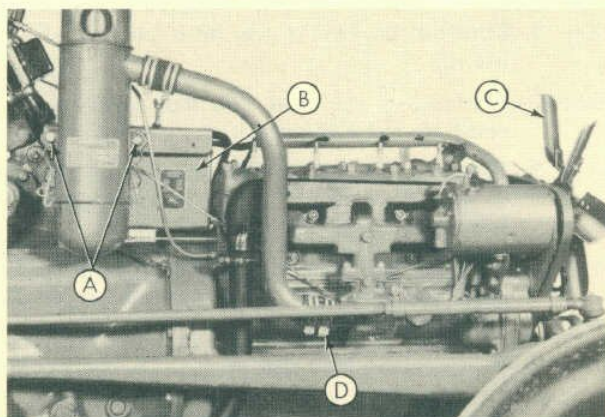

Fig. 5
- Step 1—Loosen the air cleaner pipe hose connection from the carburetor at (D-Figure 5).
- Step 2—Remove the two bolts (A-Figure 5) which hold the air cleaner to the battery rack.
- Step 4—Remove the battery rack (B-Figure 5).
- Step 5—Remove the fan (C-Figure 5) from the water pump pulley.